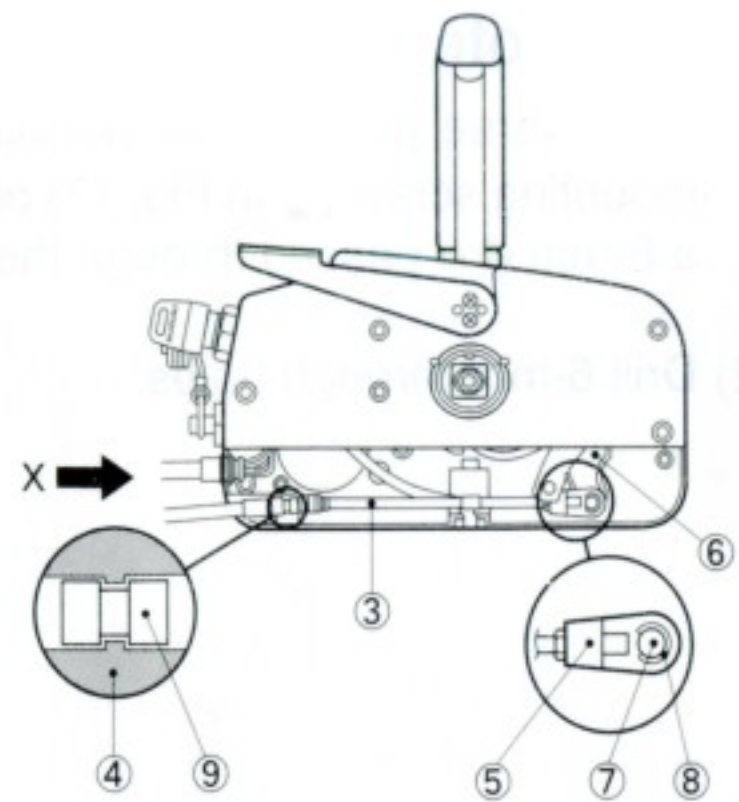

Fig. 14
- 4) Insert the grommet ⑨ into the clamp groove ④ all the way until it contacts the shift side remote control cable ③.
- 5) Install the throttle remote control cable ⑩ to the throttle arm ⑪ in the same manner as the shift remote control cable ③ as shown in Fig. 14.